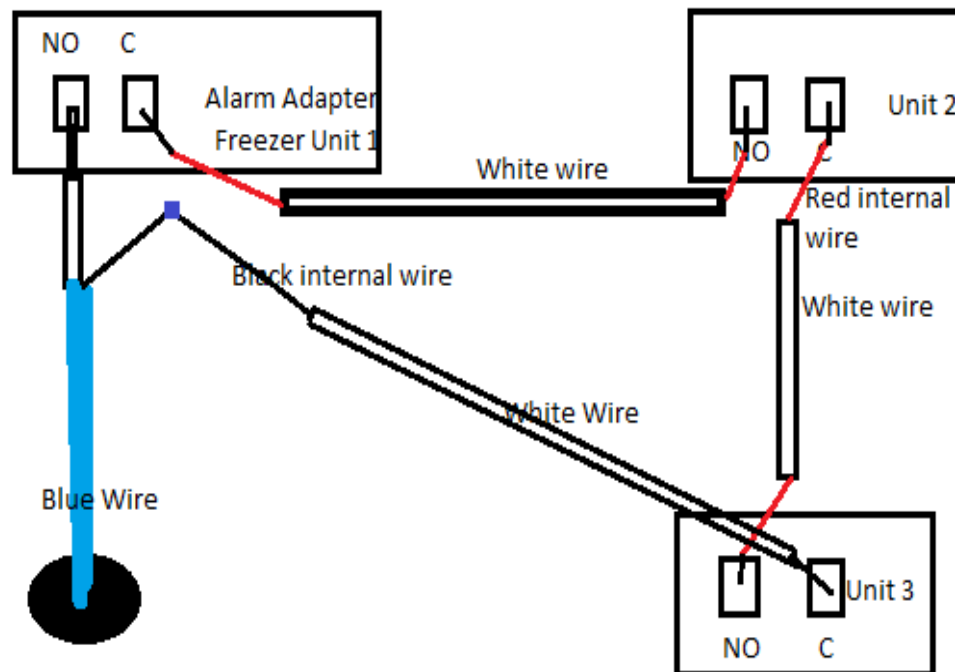

Figure 2
- 6.5.8.3.4.12. Twist the other end of the black internal wire (white encased daisy chain wire) to the black internal wire of the blue encased wire in the wall (See Figure 2).